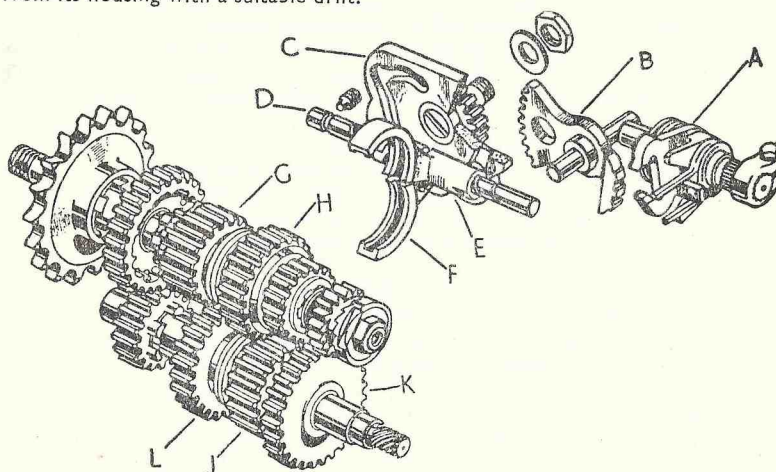

Fig. 15. Gearchange Mechanism.
If the gear change mechanism requires attention, remove the gear lever and the small circlip which lies behind it to permit the complete spindle and gear change mechanism to be withdrawn. Examine the operating claw (A) Fig. 15, to ensure that the ends of the claw are still well formed. With the outer cover removed the kickstarter spring or any other parts of the kickstarter mechanism can be attended to.
Reassembly generally is carried out in the reverse order to dismantling. When the cam plate has been replaced, locate it in the neutral position, between first and second gears, with the selector plunger. Screw the plunger housing in until, with the locknut tightened, one complete thread is still visible. Place the layshaft in position then feed in the first pair of gears (J) and (L) Fig. 15, together with their selector claw (F). These claws are interchangeable, but if the original components are to be used they should be replaced in their original positions. Replace the second pair of gears (G) and (H), together with the selector claw (E), and make sure that the guide pins of both selector claws are correctly engaged in their cam grooves.